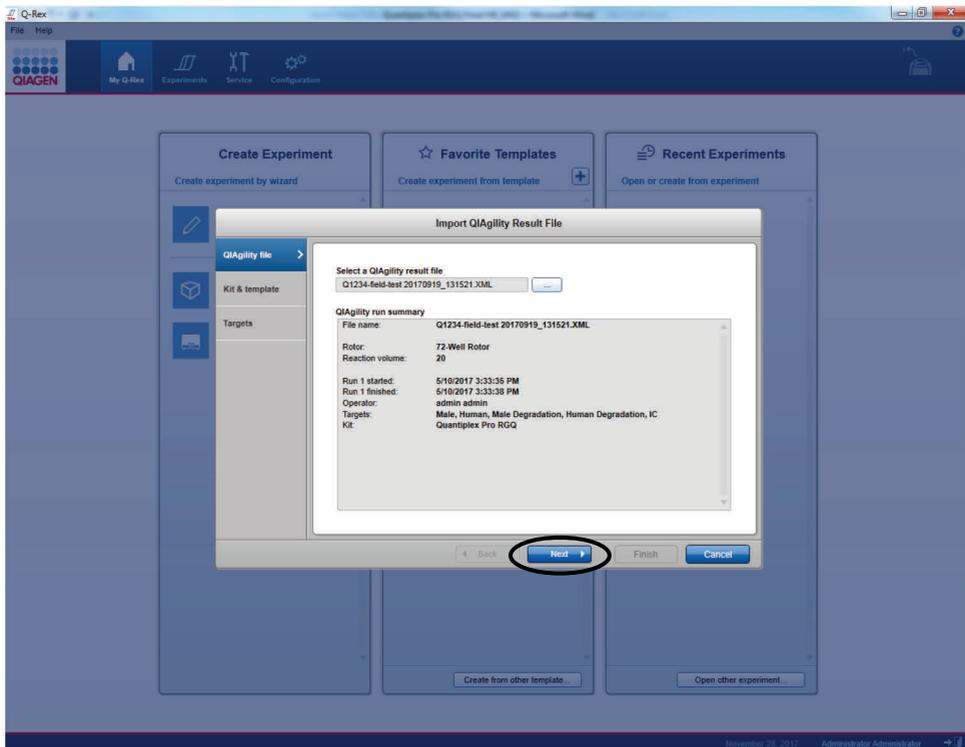
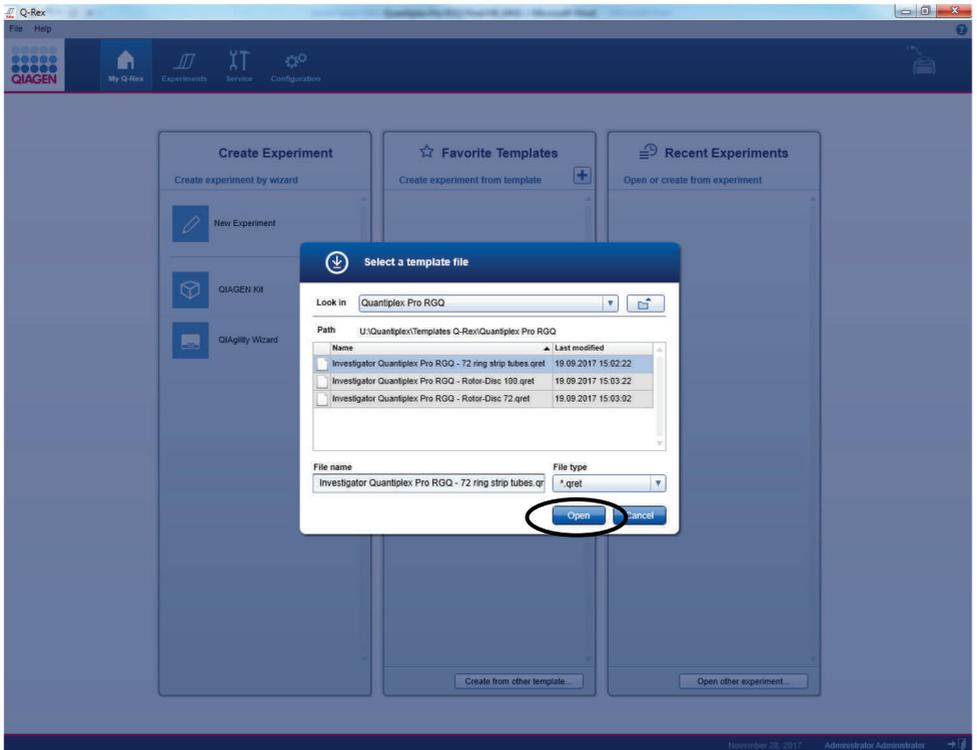

Figure 18. Selecting the Quant Batch file.
Figure 19. Selecting the Quantplex Pro RGQ Template Q-Rex.
27. Click on next (Figure 18) and browse to locate the saved Quantiplex Pro RGQ Template files for use with the Data Handling Tool and select the correct Quantiplex Pro RGQ Template file for 0.1 ml strip tubes, Rotor-Disc 72 or Rotor-Disc 100 (Figure 19).
28. Click on open (Figure 19).